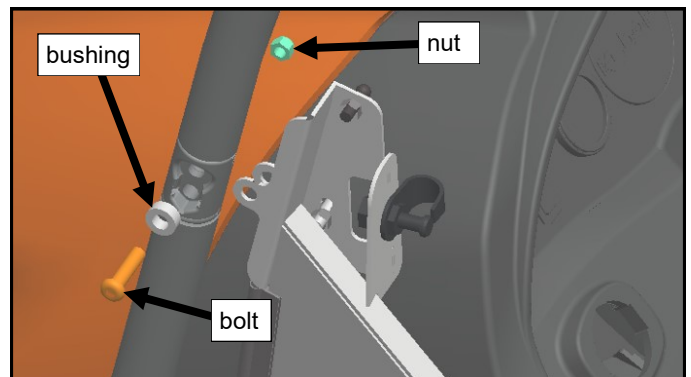
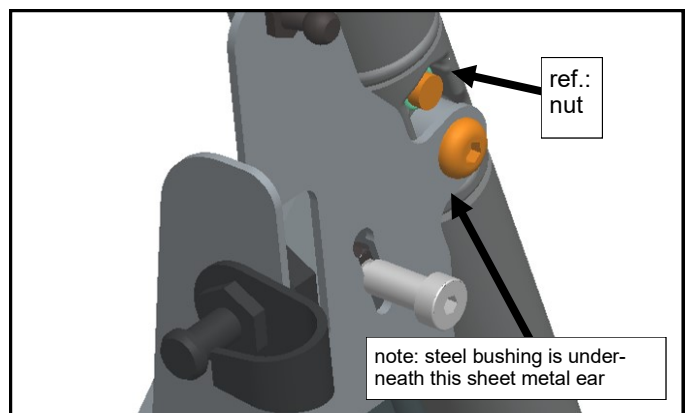

Fig. 3.1 (install front bolts)
Fig. 3.2 (install front bolts)
3. Remove and discard the two original equipment bolts and nuts from the front ROPS tubing as well as the two front pine tree clips holding the outer edge of the rubber floor mat. New bolts, nuts, and steel bushings are provided. Have the following hardware ready: two 3/8-16 x 1-3/4" long button head bolts, two steel bushings, and two 3/8" locknuts. Per fig. 3.1, orient and install the front leg on the driver's side as follows: the steel bushings are to be installed in the upper outside cavity and the lower inside cavity. These are to fill voids and support the ears on the front mount. Install the new nuts into the open cavities. Install the new bolts through the ears of the front mount, through the steel bushings, through the ROPS tubing and engage into each of the locknuts as shown in fig. 3.2. Leave the bolts loose at this time.